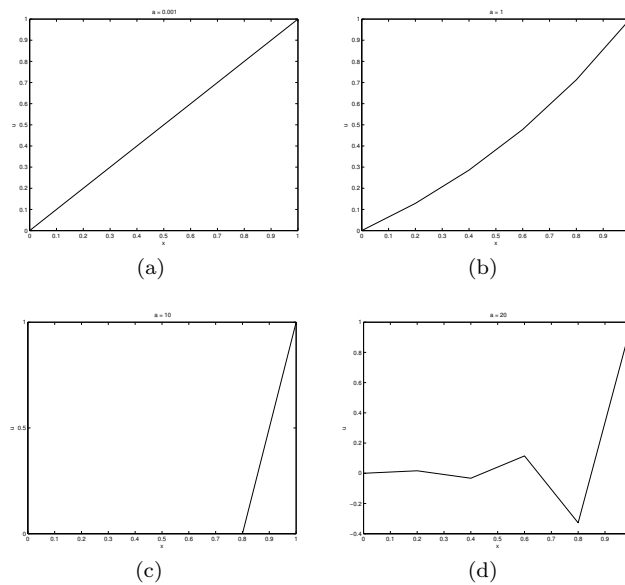

Fig. 15.1. Solution of the steady convection diffusion equation for different values of a using 5 linear elements
- 15.1 (b) See Fig. 15.1. For small a the solution is approximately the same as the solution of the diffusion equation. For larger a particles drag along with the fluid and thus the higher concentrations shift to the right. For values higher than 10 the solution becomes unstable.